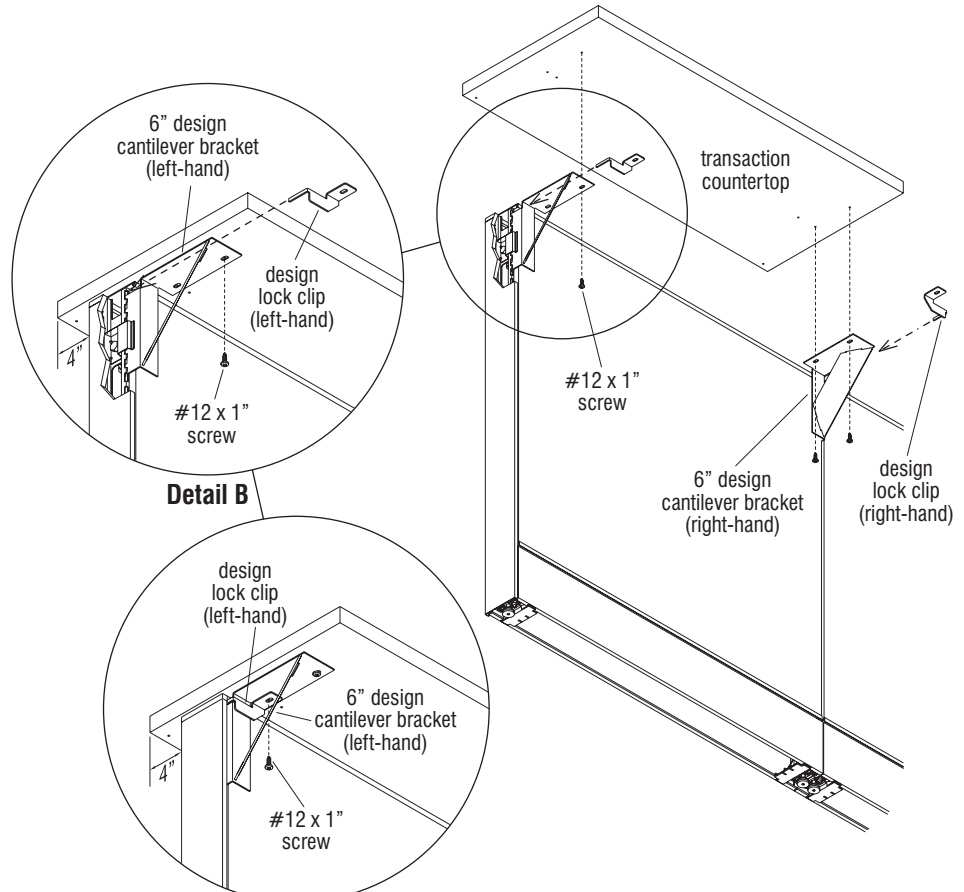

Figure 2 **Detail C**
3. After the cantilever brackets have been installed to the workstation side of the panel, position the transaction countertop onto the brackets as illustrated, with the smaller, 4" countertop overhang into the aisle side. Align mounting holes of the brackets with the corresponding pre-drilled holes in the underside of the transaction countertop. Using one #12 x 1" screw per bracket, at the front side of the bracket (hole closest the worksurface user), secure the bracket to the transaction countertop as illustrated (Figure 2 and Detail B).
4. Position a design lock clip as illustrated (Detail B) and insert the thin prong end of the clip into the top panel notch, just above the top tooth of the left-hand design cantilever bracket. Fully inserted properly, the mounting hole of the lock clip will align over the unused mounting hole in the cantilever bracket. Insert and tighten the second #12 x 1" screw to secure the clip over the cantilever bracket, and to the transaction countertop (Figure 2 & Details B & C).
5. Repeat step 4 above for the right-hand design lock clip to the right-hand design cantilever bracket. Check and assure that all four mounting screws are tight. The transaction countertop must be snug and no movement should be felt (Figure 2 & Details B & C).